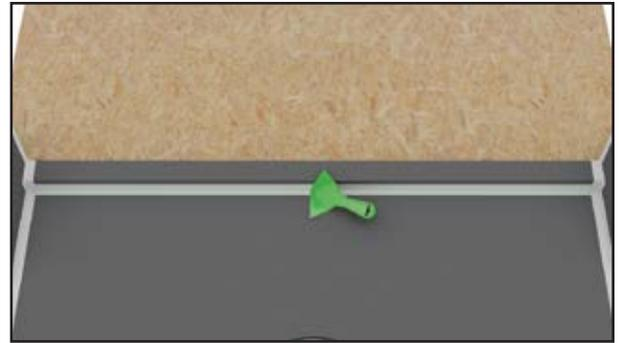

Fig. 17
- Use the HYDRO-BLOK Corner Putty Knife to smooth out the excess Joint Sealant from the seam between the Shower Pan and Curb and install 2" mesh tape as per the Shower Pan to Wallboard seams. Place an additional small piece of mesh tape at the top of Shower Curb to Wallboard joint. Any excess Joint Sealant can be spread to cover the Screws/Washers (Fig. 17).